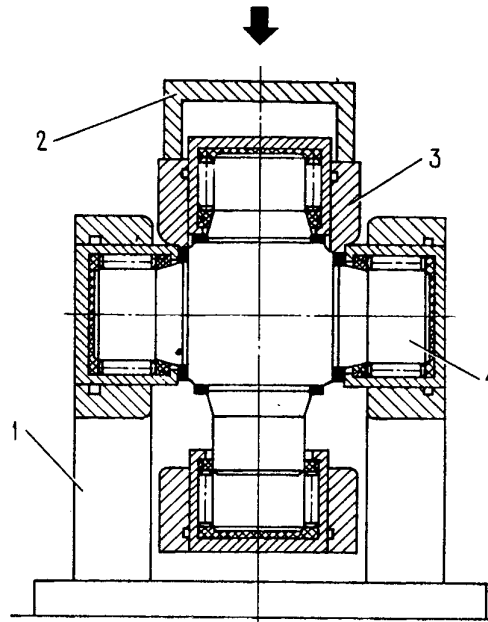

Fig. 3-53. Disassembling Universal Joint: 1 - press support; 2 - bushing; 3 - universal joint yoke; 4 - cross
- rest the universal joint fork of the propeller shaft on press support 1 (Fig. 3-53). Shift the other yoke (Ref. No. 3) of the joint to thrust against the cross by means of special bushing 2 and the rod of the press;